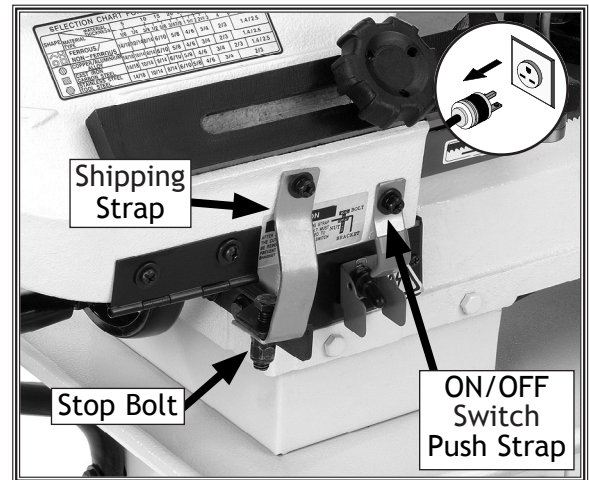

Figure 21. Shipping strap location.
2. Remove the ON/OFF switch push strap and save it for reinstallation later (see Figure 21).